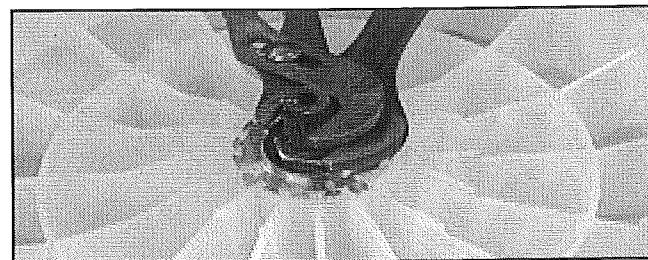

FIGURE 6
- Remove Shaft Nut. See *Figure 6*.